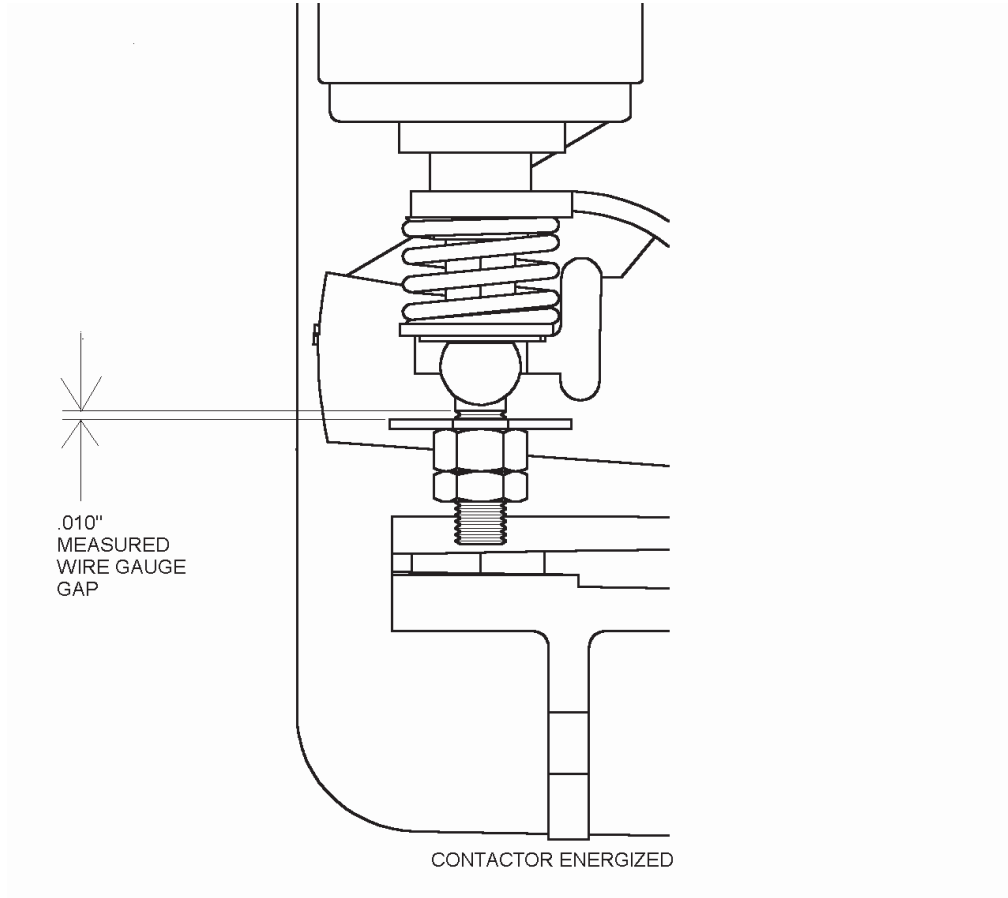

FIGURE 7
2. Remove Phase Cover as described (Figure 3, page 5) earlier to access inspection area (Figure 7).